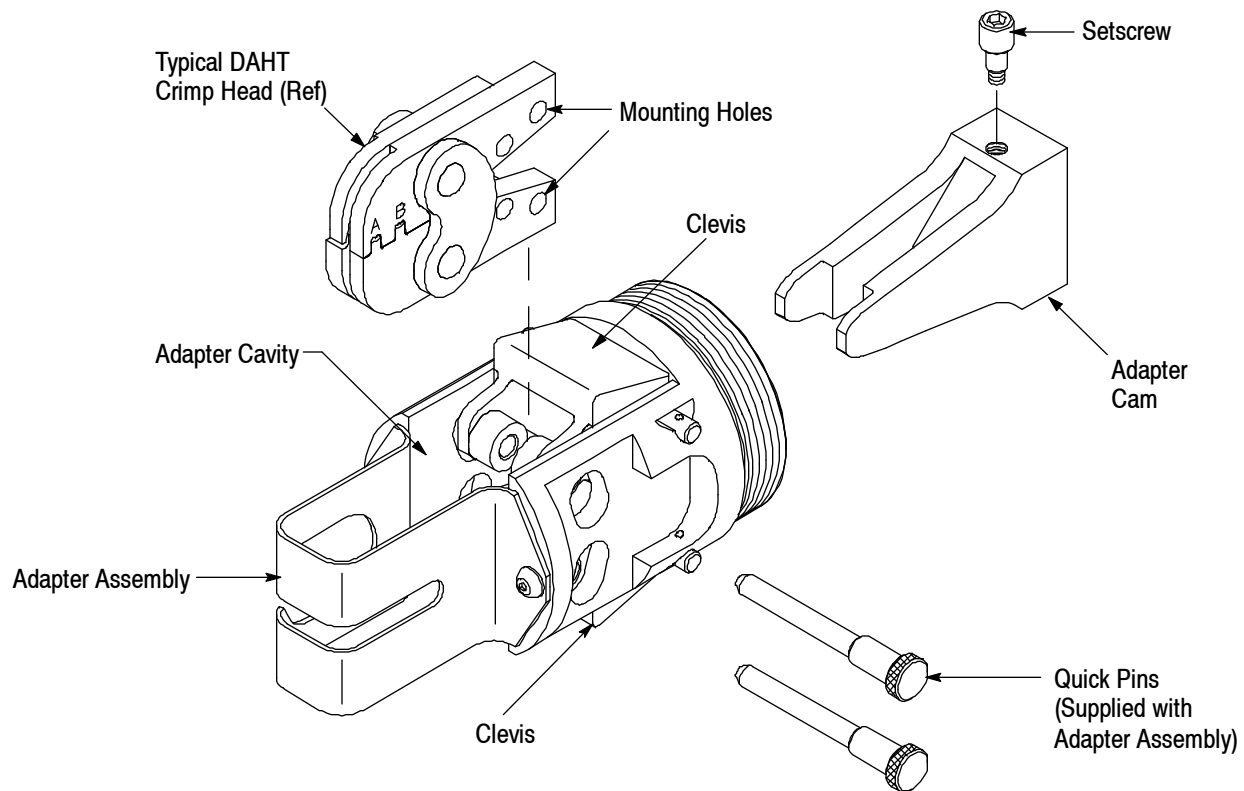

Figure 1
The adapter assembly facilitates the connection of the crimp head (typical shown in Figure 1) to the pneumatic tool and provides the necessary motion of the crimp head jaws when the pneumatic tool is actuated. When the tool is actuated, the cam extends into the adapter, contacting the crimp head jaws. When the cam retracts, the force is removed from the jaws and they return to their starting position.
1. Align the crimp head mounting holes with the adapter quick pin holes as shown in Figure 1, then insert the crimp head into adapter cavity.
2. Install the quick pins through the slotted holes in the adapter and into the crimp head mounting holes. See Figure 1.